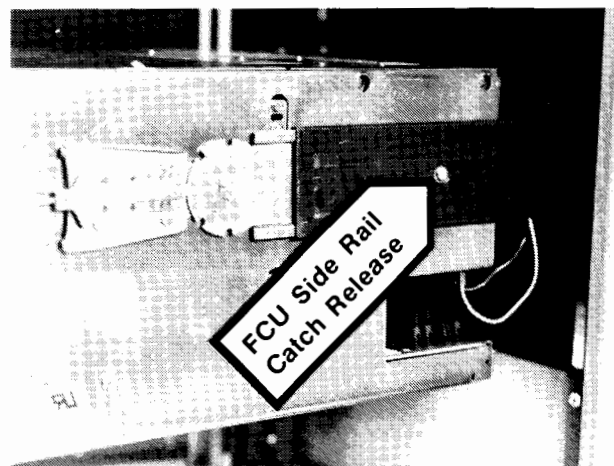

Figure 3-6. FCU Side Rail Latch Release Location
- e. Pull the FCU out the front of the cabinet as far as it will come. To release the FCU from its side rails, press in on the two side rail catches (figure 3-6) and carefully pull the unit free from the side rails.